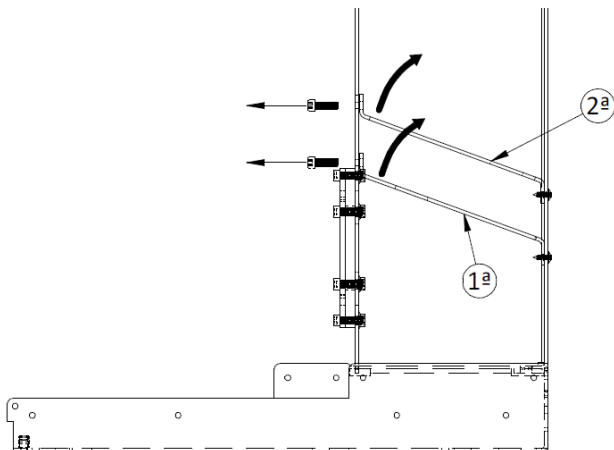

Figure 53 - Smoke box defectors
- To remove the baffles, you first have to remove 2 M6x20 DIN 912 screws as shown (Figure 53).
- First remove the bottom plate as shown below (Figure 53) by turning the plate slightly and removing it through the right-side cover.